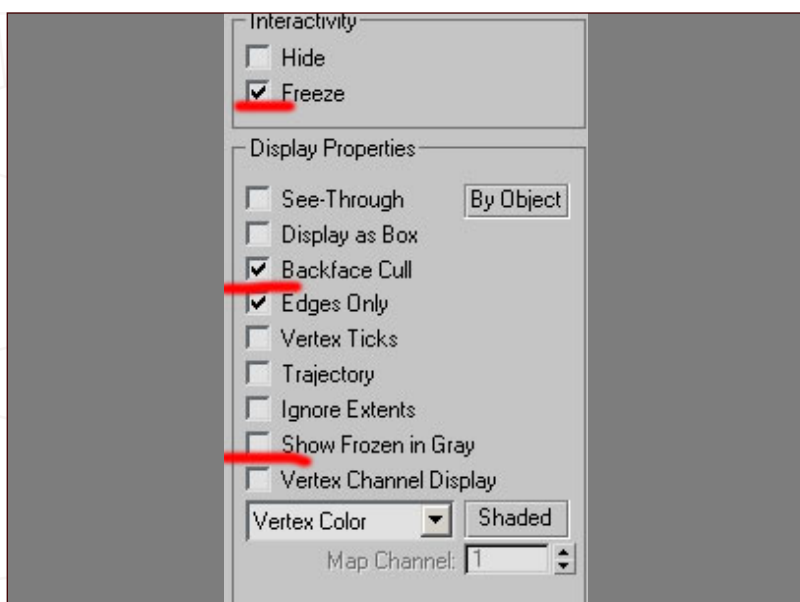

Fig 06
6. Now, after you have all the blueprints set in the way you want, disable Show Frozen in Gray, in the object properties, and freeze them (**Fig06**).